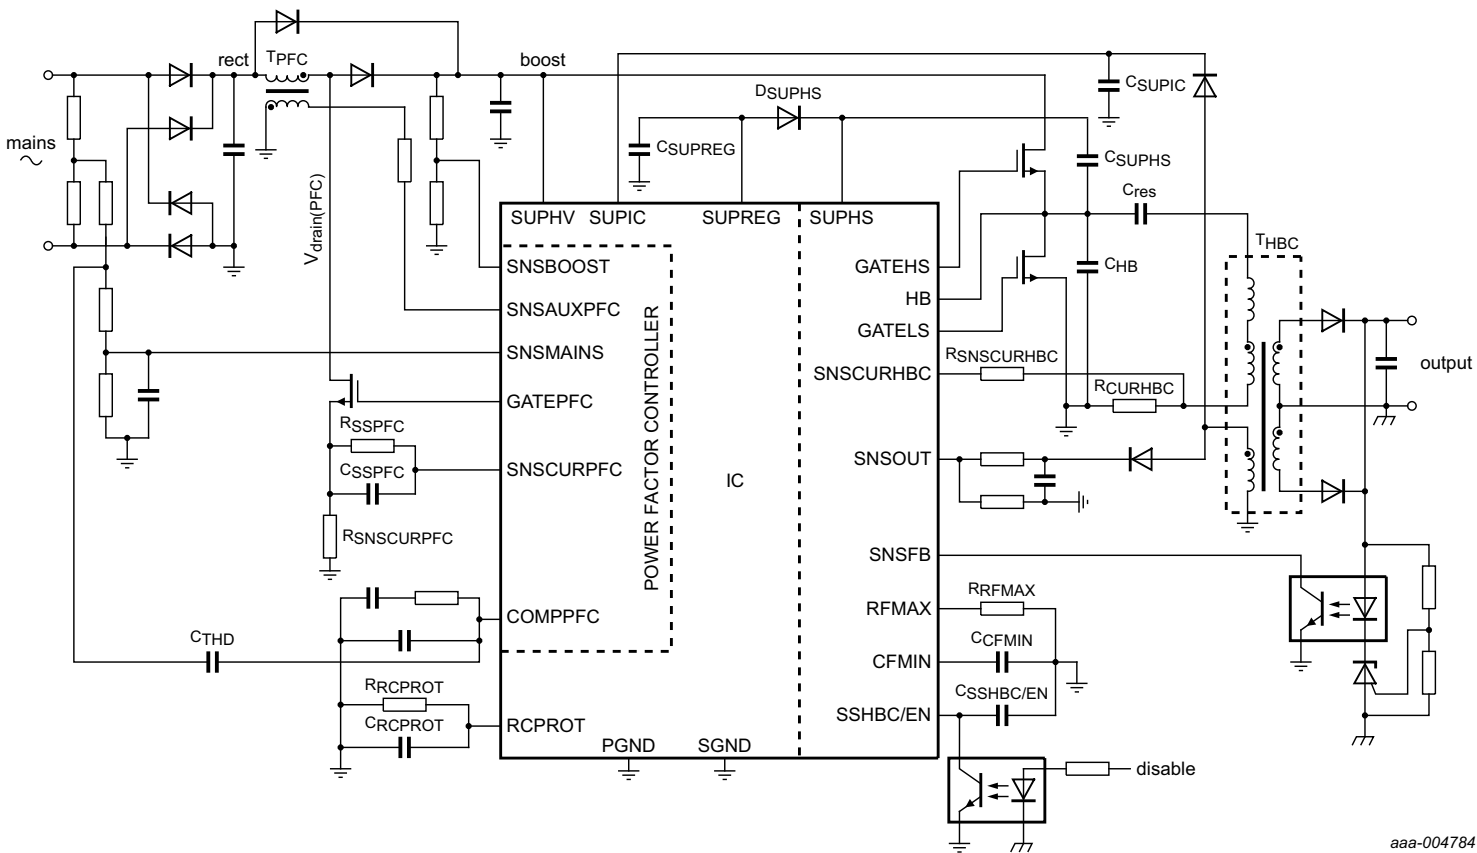

Fig 19. Application diagram of SSL4120
- [3] For a typical application with a compensation network on the COMPPFC pin, as the example in Figure 19.